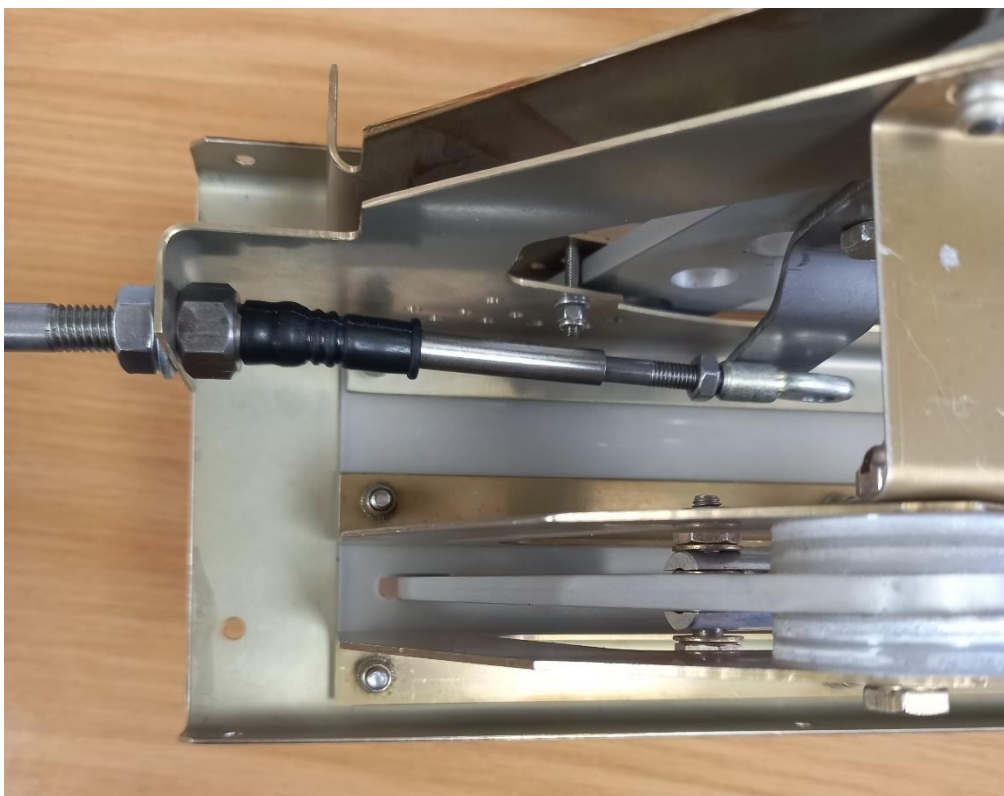

Figure 27
Step 8: Thread the throttle cable through the sheath so that the clevis is inserted into the throttle endcap. Refer to Figure 27 for what the clevis looks like once the throttle cable has been inserted into the throttle cable sheath.